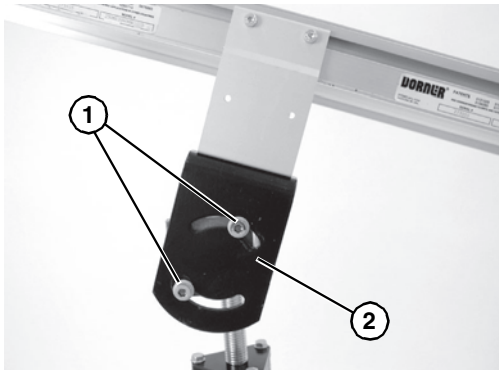

Figure 24
<p>To rotate stand, screws (Figure 24, item 1) may need to be re-located to other holes in the stand top end plate (Figure 24, item 2).</p>
1. Loosen flange socket screws (Figure 24, item 1) on both sides of stand.